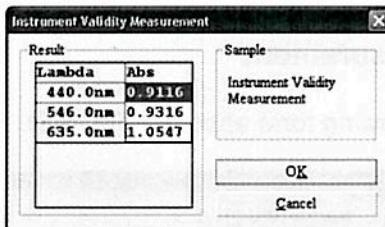
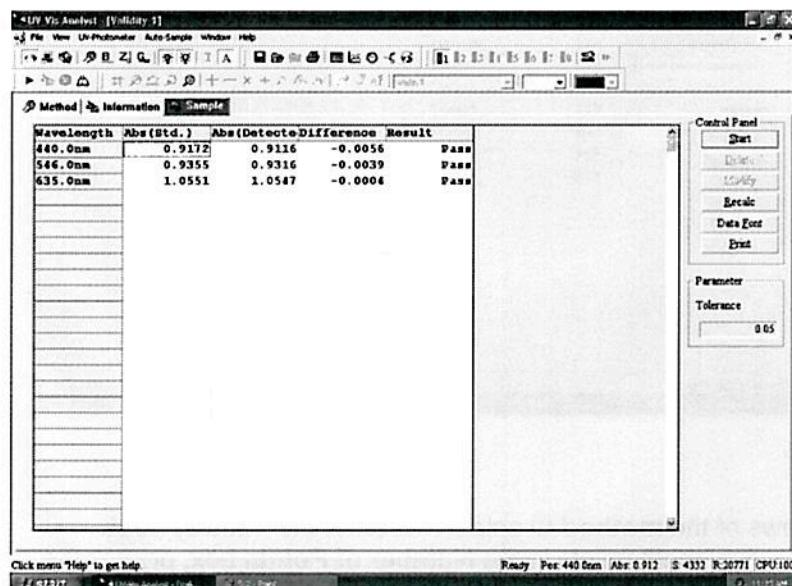

Fig. 5-3
Fig. 5-4
6. Place the Photometric Standard Filter in sample holder, click  to run a new measurement, appears following form (Fig. 5-3). Click OK to list the data in the table (Fig. 5-4).